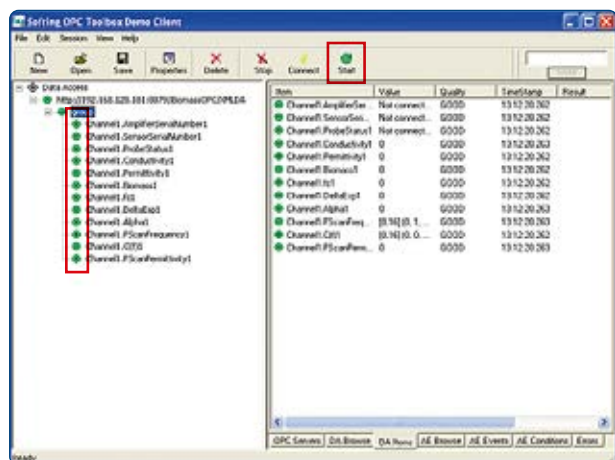

Figure 69: Connected Arc View Controller with the Tool Box Demo Client.
- To observe the data evolution select the DA Items tab to see the evolution of the data selection (Figure 69).